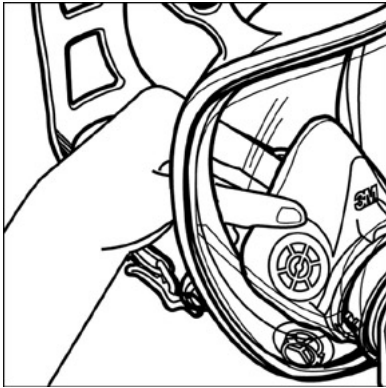

Fig. 11
1. Remove nose cup assembly by pulling away from center adapter inside facepiece. (Fig. 11)
1. Remove the nose cup assembly by pulling away from center adapter inside facepiece. (Fig. 11)